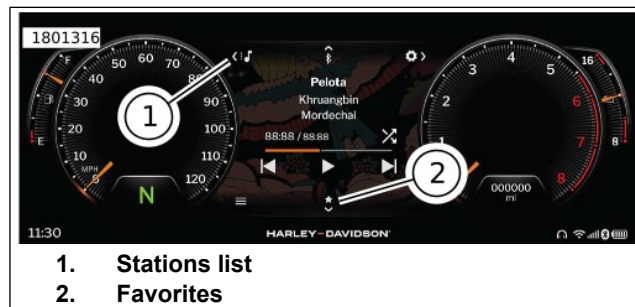

Figure 65. Stations List and Favorites
See Figure 65. A list of available stations can be viewed by selecting the stations list icon (1).
2. See Figure 65. Press favorites (2) on screen or Navigate down button on LHCM.